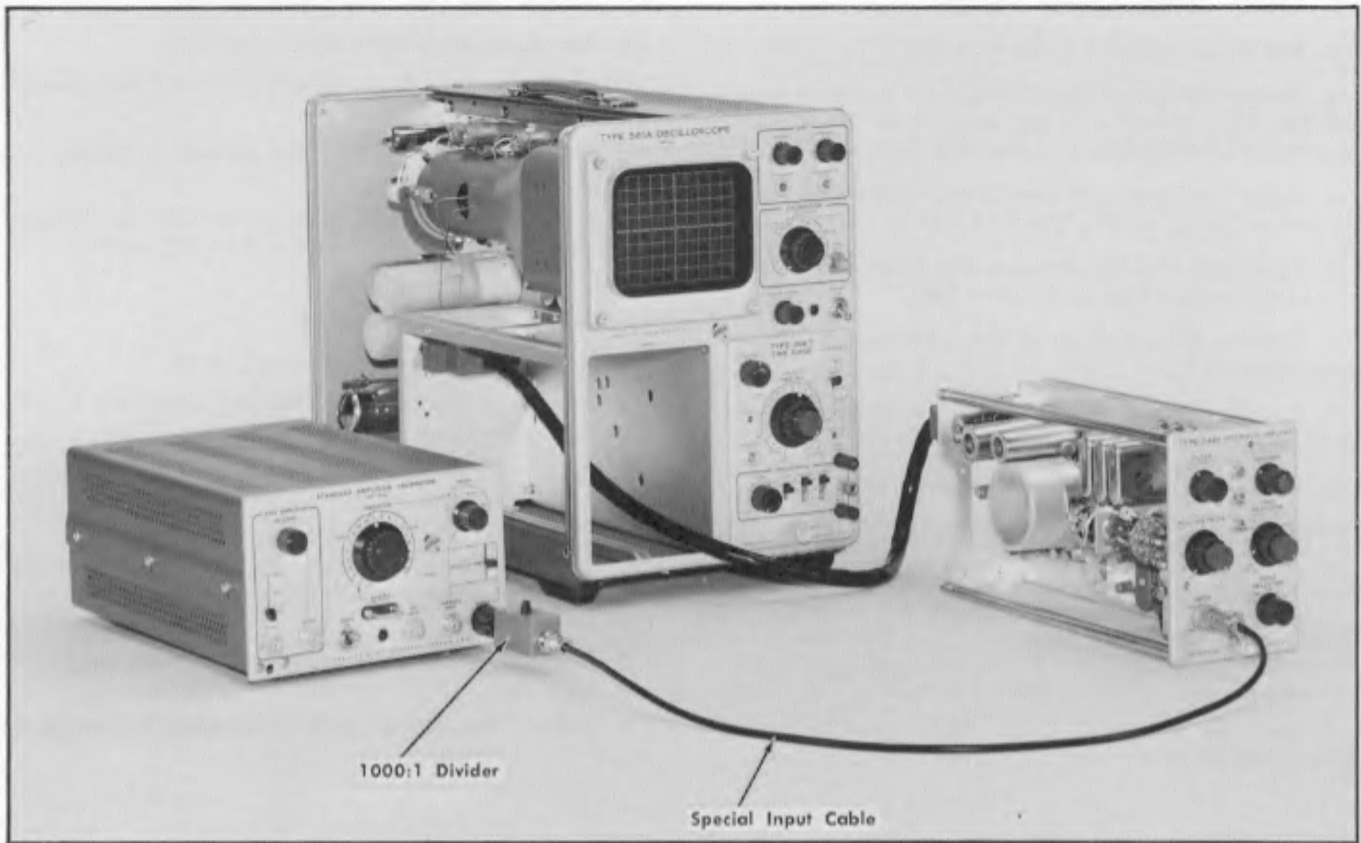

Fig. 6-19. Initial test equipment setup for step 15.
- a. Test equipment setup is shown in Fig. 6-19.